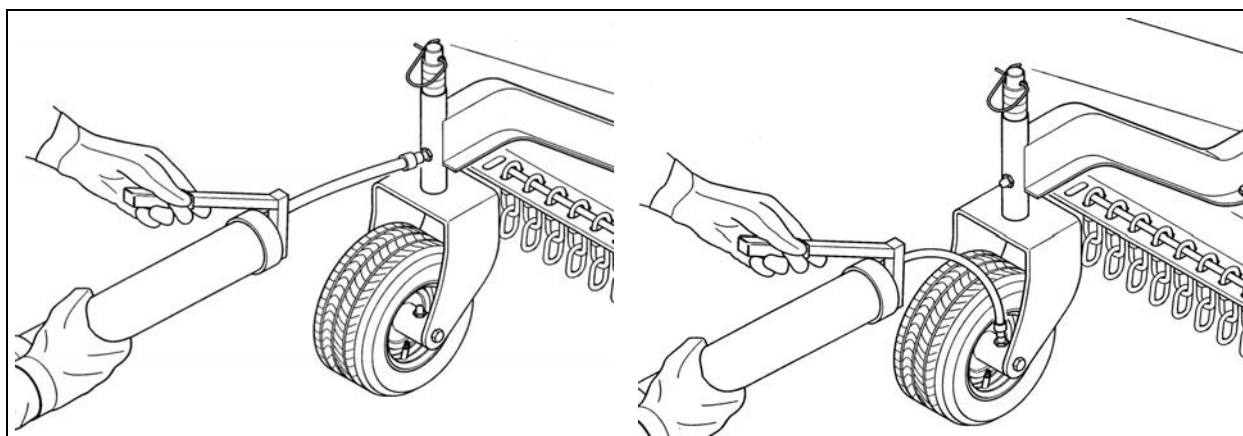

Fig. 11 - Lubrication of wheel yokes and caster wheels.
1. **Lubricate driveline, wheels and wheel yokes:** Apply two or three shots of grease to the driveline cross and bearings and to the inner and outer locking rings (**see fig. 12**); apply the same amount to the wheel yoke grease fittings and the wheel grease fittings (**see fig. 11**). (See the driveline manufacturer operator's manual for further information on the driveline.)